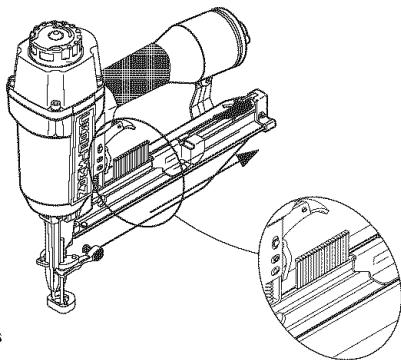

Figure 2
Refer to Figures 2 & 5 (pages 3 and 6).
- Insert fasteners into magazine (see Figure 2).